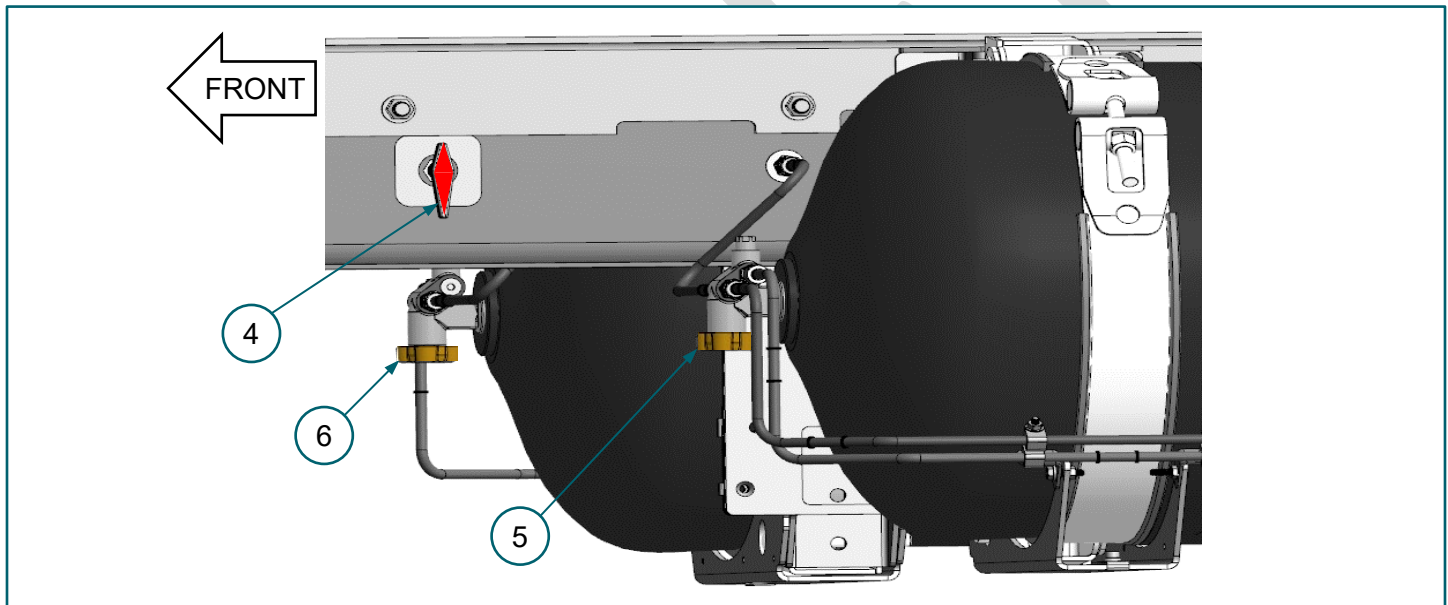

FIGURE 3-11. (4) 1/4-turn manual shutoff valve, (5) DS cylinder manual valve, (6) PS cylinder manual valve
10. Open (5) DS cylinder manual shutoff valve. NOTE: Cylinder shield not shown. **FIGURE 3-11**